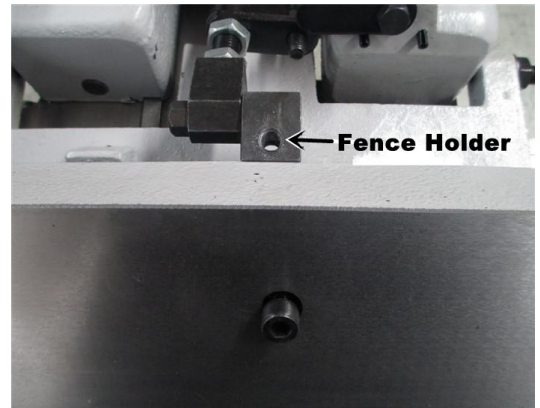

Figure 6
1. Loosen and take off the cap screw attached on the fence holder.(Fig. 6)
2. Line up the hole on the fence and thread on fence holder.(Fig. 6)